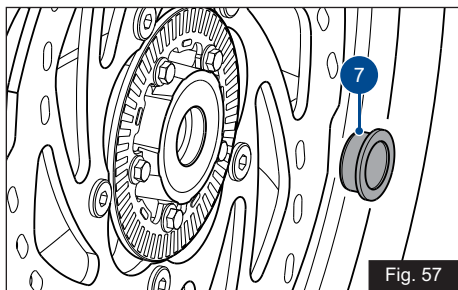

Fig. 57
- ◆ Take out the spacer bush (7) from the left side of the wheel hub (ref. Fig. 57).
- ◆ Loosen the mounting screw (8) and take out the speed sensor (9) from front suspension.
- ◆ Fix the spacer bush (7) on the left side of wheel hub (ref. Fig. 57).